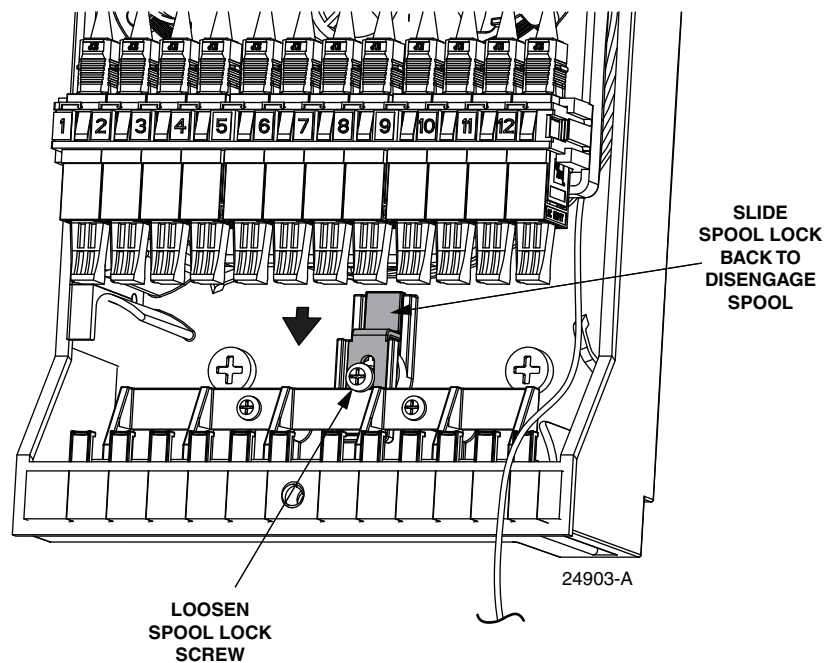

Figure 11. Loosening Fiber Spool
4. Loosen the fiber spool, and lock and pull the MPO connector out, as shown in Figure 11.